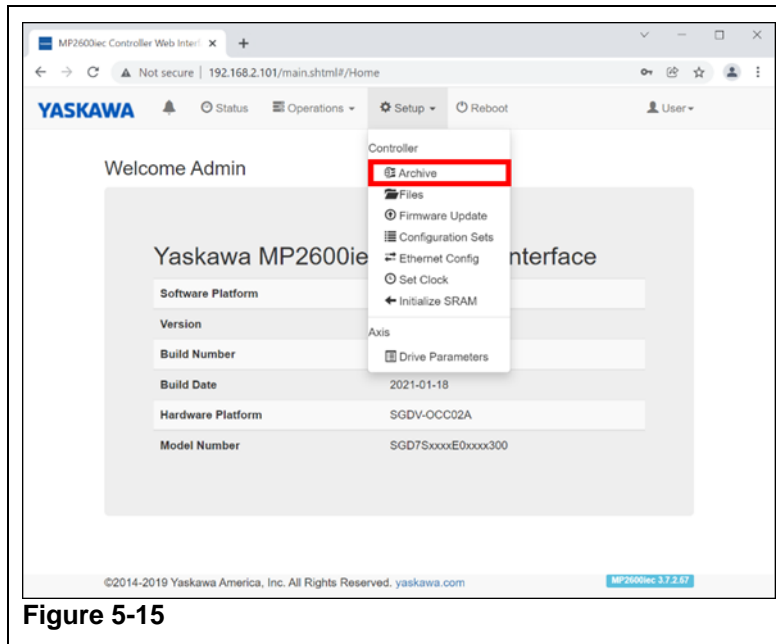

Figure 5-15
- i. Go to the 'Setup' pulldown menu of the Yaskawa website page and select "Archive". (Refer to Figure 5-15)